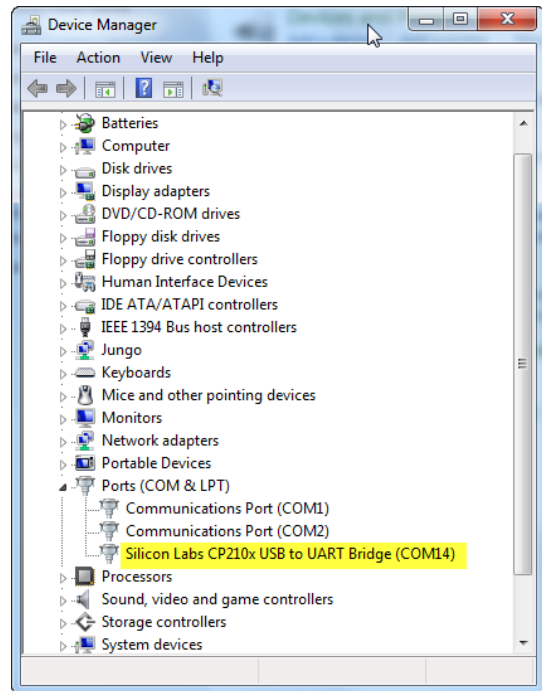

Figure 8 – Device Manager showing COM Port for A-910 Dongle
5. Locate **SILICON LABS CP210x USB to UART Bridge (COM x)** (see Figure 8).
6. Note the COM Port listed and select that COM Port in the A-910 Zigbee Utility software using the drop-down arrow (see Figure 8).